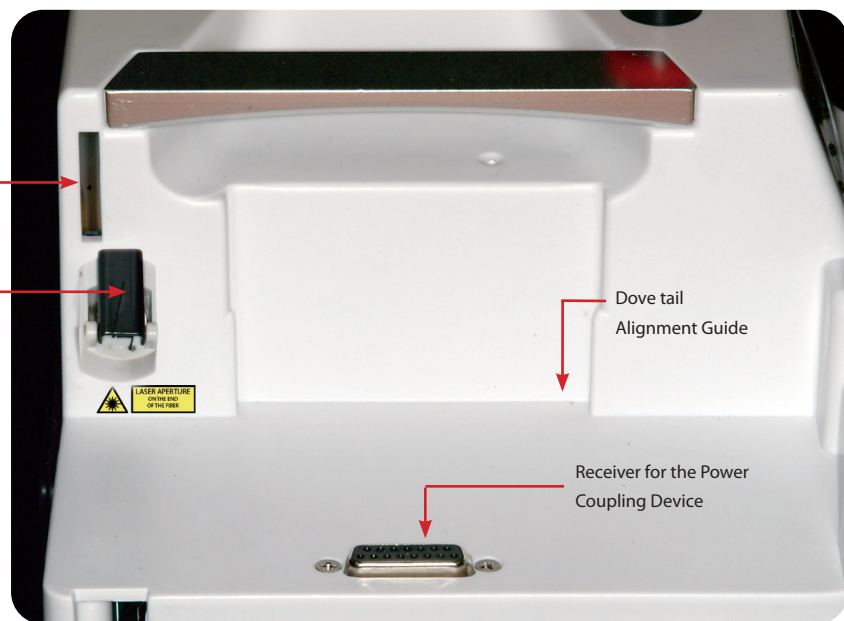

Figure 3.8 Laser Aperture (ST adapter) and power receiver for the power coupling device on the base of the cartridge.
- Slide the new cartridge down into the bay and press it firmly in place. (FIGURE 3.8 and 3.9 and 3.11)